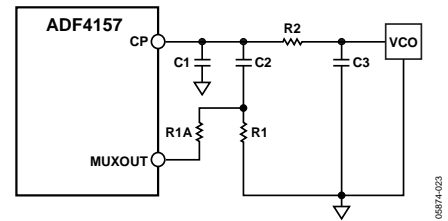

Figure 23. Fastlock Loop Filter Topology—Topology 2
- Connect an extra resistor (R1A) directly from MUXOUT, as shown in Figure 23. The extra resistor must be chosen such that the parallel combination of an extra resistor and the damping resistor (R1) is reduced to $\frac{1}{4}$ of the original value of R1 (see Figure 23).